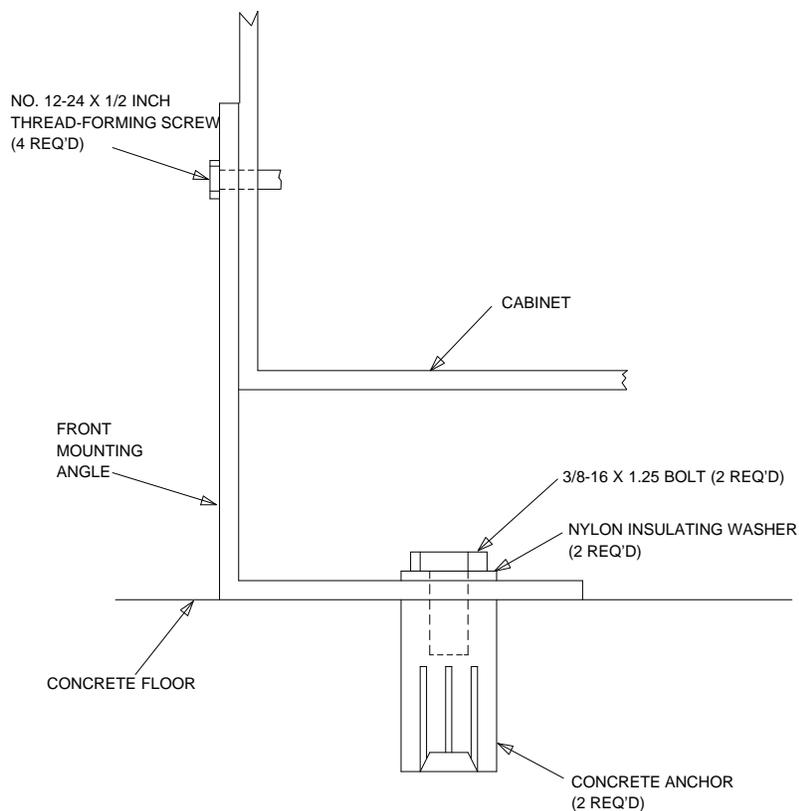

Figure 3-3. Cabinet Earthquake Mounting — Concrete Floor
4. Mount the front mounting angle to the floor (Figure 3-3).
12. Fasten the cabinet to the floor (Figure 3-3).